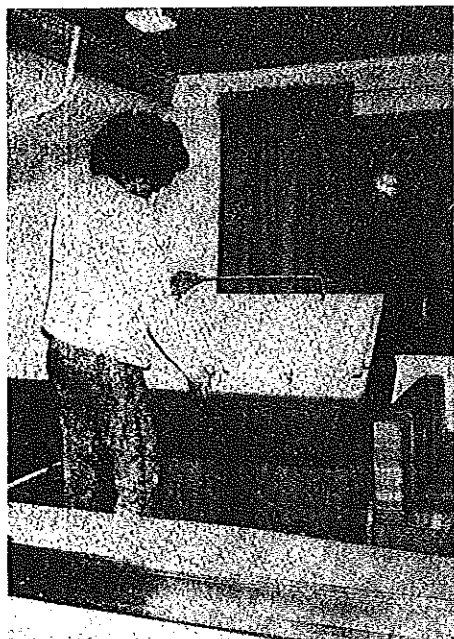

FIGURE 25
30. Grasp the towel rack on the upper galley assembly. Lift up and rotate 180° toward the outside of the trailer. See Figure 25.